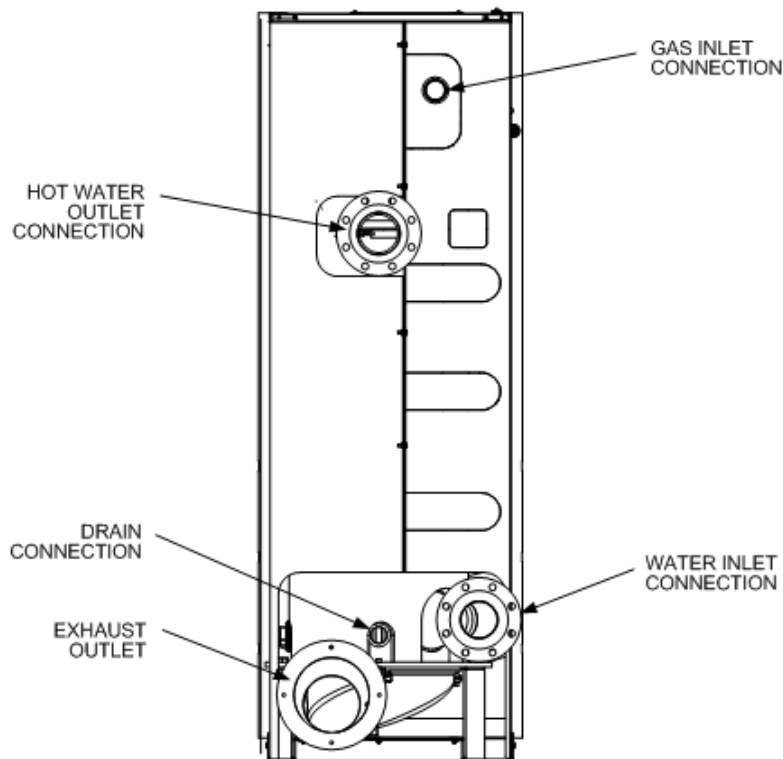

Figure 3: Benchmark 2.0LN - (Rear View)
3. At the rear of the unit (Figure 3), slowly open the drain valve and drain the boiler water from the heat exchanger.